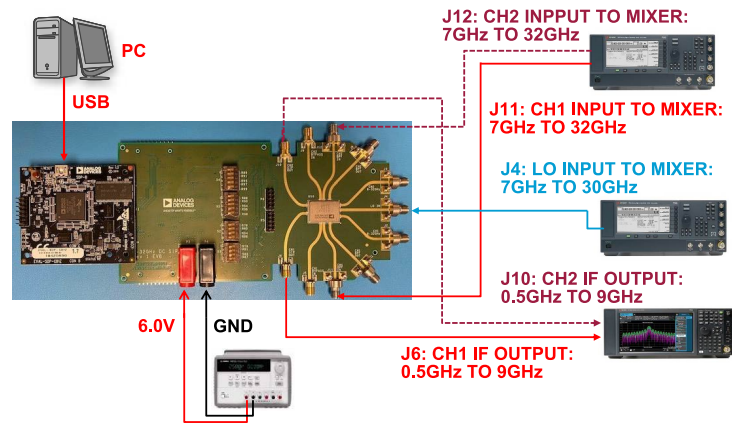
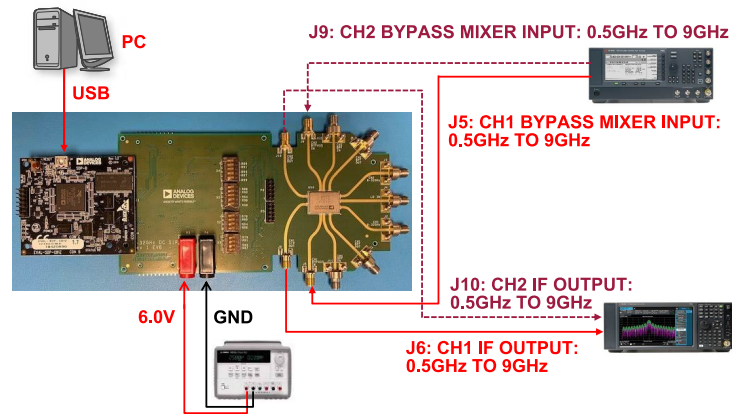

Figure 3. Mixer Measurement Setup
Figure 4. Mixer Bypass Measurement Setup
The three operating modes of the ADMFM2000-EVALZ are LNA only, mixer only, or mixer bypass (see Table 1 for further details). In addition, the LNA can be cascaded with the mixer (with an optional attenuation or filtering in between) by making a connection between the BPF IN and BPF OUT connectors. Refer to Figure 2 through Figure 4 for the hardware setup for each mode.
1. Set up the test hardware configuration for the desired operating mode, as shown in Figure 2, Figure 3, or Figure 4. Make sure the S1 switch on the secondary side of the ADMFM2000-EVALZ is flipped to the position shown of the S1 silkscreen.
B	The Channel State dropdown menu is where users select between mixer mode and bypass (mixer) mode. The mode must match the hardware setup shown in either <a href="#">Figure 3</a> and <a href="#">Figure 4</a> .